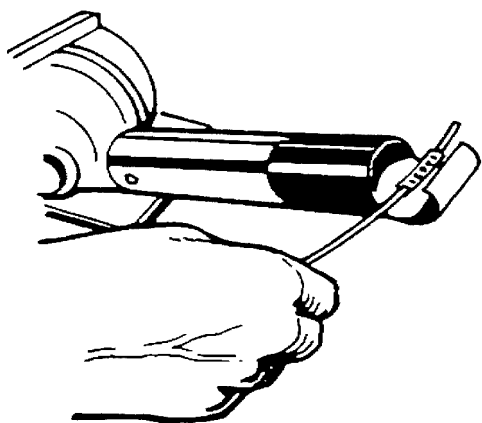

Figure 28. Shrinking Marker on Wire
- d. Shrink marker sleeve, using heat gun with shrink tubing attachment (Figure 28).